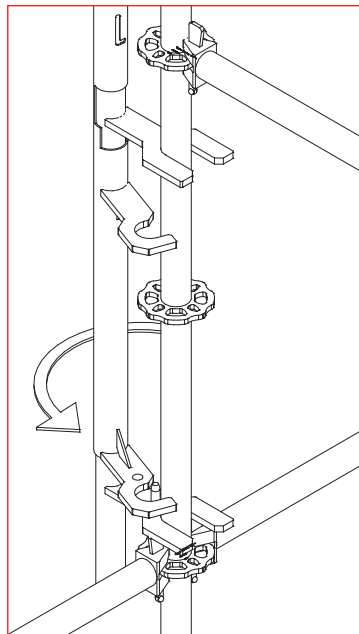

Fig. 3.9
1. An assembly post consists of two pipes which can be rotated and moved along a joint axis. This allows opening and closing the catch. When the post is properly installed the bolt in the bottom catch enters the opening in the closing sheet (fig. 3.9).